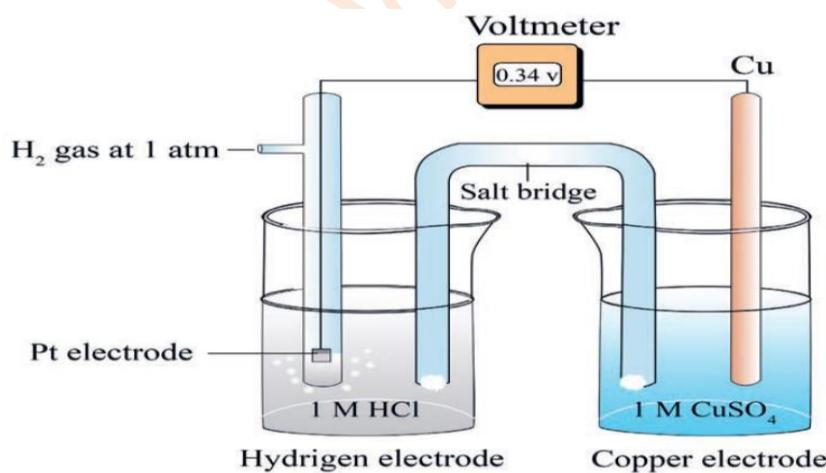

Figure 2.9: A cell consisting of a copper electrode and a hydrogen electrode
- The standard electrode potential of copper can be obtained in a similar fashion, by using a cell with a copper electrode and a SHE (Figure 2.9). In this case, the copper electrode is the cathode because its mass increases during the operation of the cell, as it is consistent with the reduction reaction: